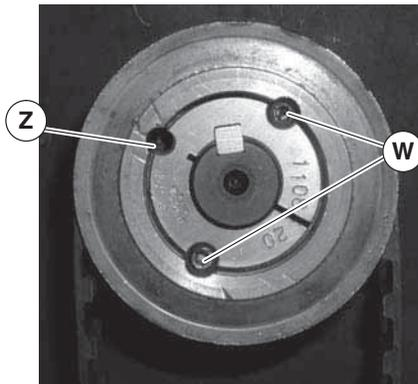

Figure 15
2. Remove taper-lock screws (Figure 15, item W). Insert one (1) of taper lock screws (Figure 15, item W) in remaining hole (Z). Tighten screw (W) until pulley is loose. Remove pulley and taper hub assembly.